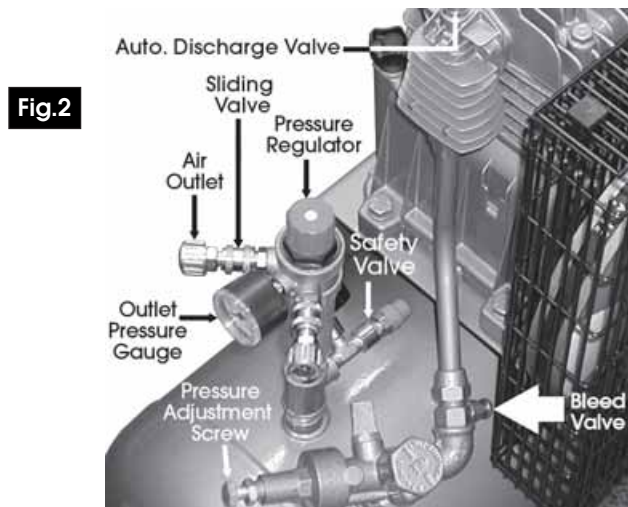

Fig.2
2. To ease starting, ensure there is no pressure in the pump outlet manifold by opening the Bleed Valve (See Fig.2).